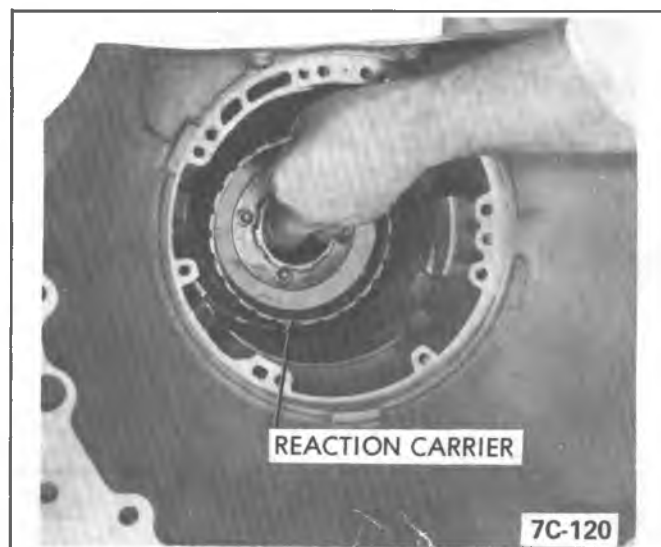

Figure 7A3-56 Reaction Carrier Removal
1. Remove reaction carrier assembly from output ring gear and shaft assembly. See Figure 7A3-56.